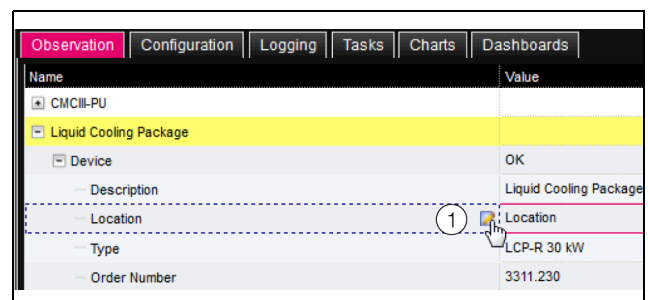

Fig. 109: Editable parameter with "Edit" symbol
For all parameters that can be changed, an "Edit" symbol in the form of a stylised notepad and pen will appear after the respective parameter if the mouse pointer is placed in the relevant line (fig. 109, item 1).